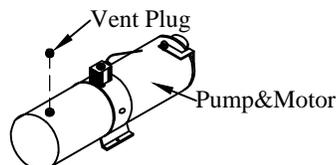

Figure 18: Vent plug.
2. **Unscrew** the solid plastic plug from the pump reservoir and **install** the vent plug provided (Figure 18).